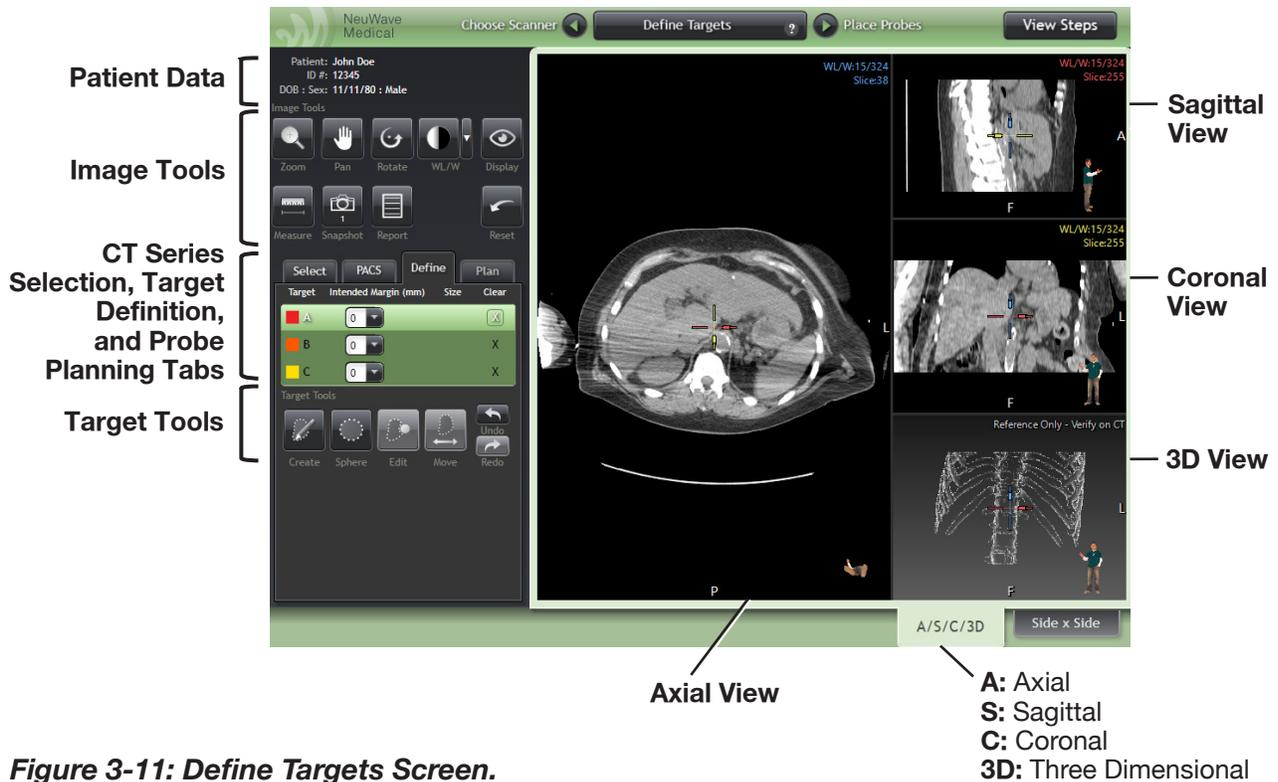
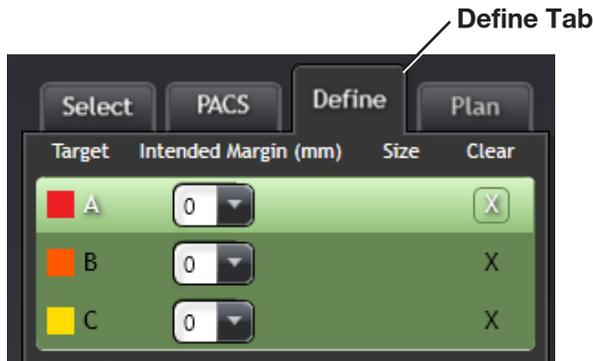

Figure 3-11: Define Targets Screen.
Figure 3-13: Target Selection Table.
Take a moment to examine the selected CT Setup Series shown on the **Define Targets** screen. This screen displays how Image Views and Image Tools are organized in this and subsequent screens of the ABLATE-IQ Software (Figure 3-11). The **Define Targets** screen contains a set of tools on the left panel that help you examine the selected image series shown on 4 separate anatomical planes called Image Views displayed on the right side of the screen. These Image Views help you locate and define the lesion. Use the mouse wheel to explore the CT series images by scrolling up and down in any of the 4 Image View panels: Axial (A), Sagittal (S), Coronal (C) or three dimensional (3D).
The right side of the selected CT Setup Series screen displays the Image Views (Figure 3-11).
- The Image Views panels include 4 views (anatomical planes), as described in Figure 3-11: Axial (A), Sagittal (S), Coronal (C), and 3D.
3. In the Target Selection Table on the left side of the **Define Targets** screen (Figure 3-11 and Figure 3-13), click a row to associate the target with the lesion you will identify. By default, the top row is selected in the table.
16. In the Target Selection Table, you can select the size of a margin to display around the target(s) (Figure 3-13). The margin display allows you to visualize the ablation zone with or without the margin to help identify the desired area. The margin area is shown in a different shade from the rest of the target area. The setting size of the intended ablation margin ranges from 1 to 10 mm.
19. To delete a target and start over, click the appropriate **X** icon under the Clear column (Figure 3-13).